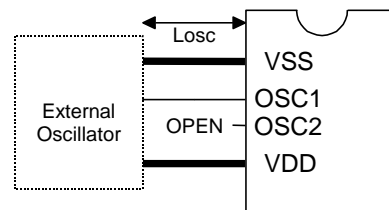

Figure 2-3. Sample Oscillation Circuit 3 (External Oscillator)
- When the external oscillation option is selected: (Figure 2-3)